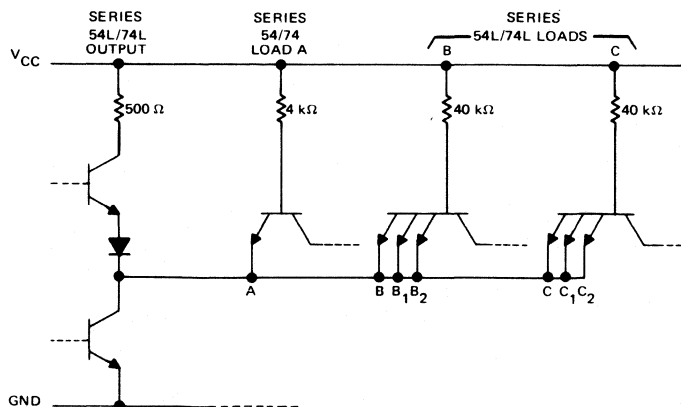

FIGURE 3
The most efficient calculations for maximum fan-out when mixing standard, high-speed, and low-power TTL circuits are achieved by using the actual current values. As an example, consider a Series 54L/74L gate (see Figure 3) driving one Series 54/74 load (A), two Series 54L/74L loads (B and C), and four unused emitters ($B_1, B_2, C_1,$ and C_2 , two on each of the 54L74L input transistors, B and C). The calculations are shown in Table III.